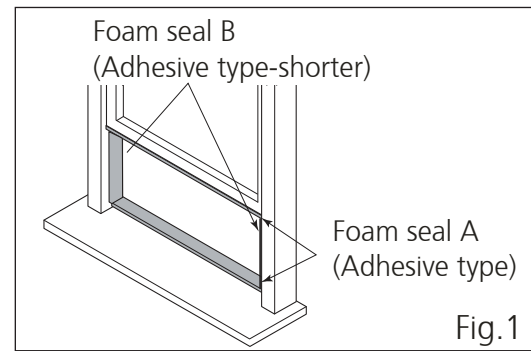

Fig.1
1. Cut the adhesive foam seal A and B strips to the proper lengths, and attach them to the window sash and frame as shown Fig.1.